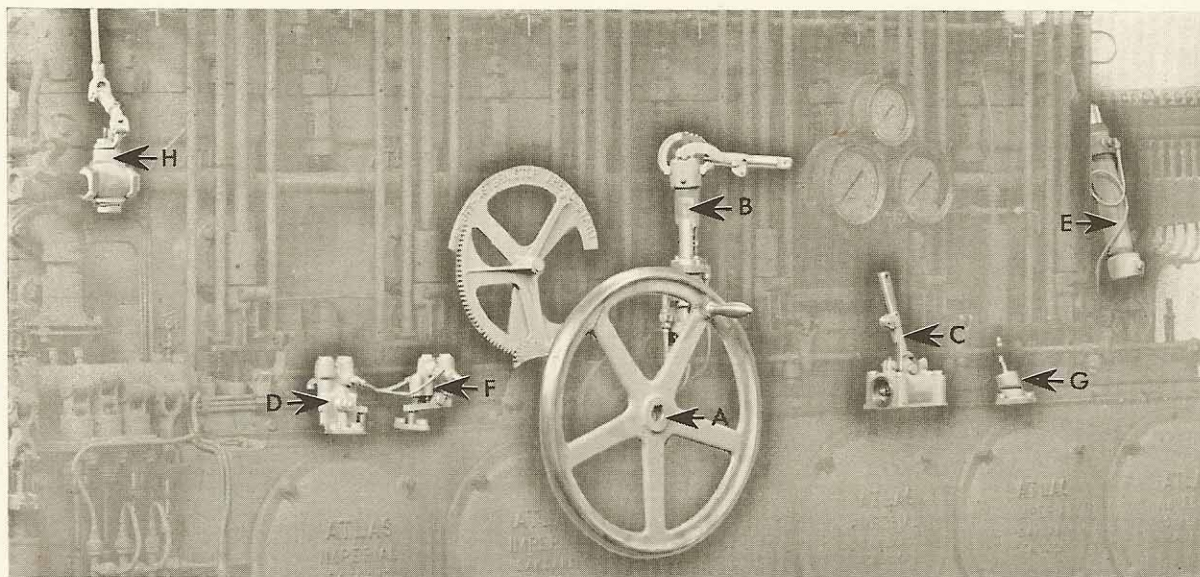

FIGURE 18-1
3. HAND-WHEEL CONTROLLED ENGINES: Figure 18-1 shows the various parts of the control system.
8. PILOT VALVES: These two valves (D) and (F), Figure 18-1, are operated from cams on the latch shaft. They are in operation only when the engine is maneuvering and yet they must hold full air pressure all the time the engine is operating. Therefore, it is essential that they are kept in perfect condition so that the starting air will not be wasted. Fine grinding compound can be used to grind leaking pilot valves. The procedure is the same as for grinding any other valves in the engine. Absolute cleanliness is necessary during assembly,
The adjustment of the pressure valves in both pilot valves is made with the hand wheel in the run position. The clearance between the valve stem and the set screw in the lever (see Figure 18-3) is adjusted to $\frac{1}{16}$ inch. The adjustment of the vent valve in the pilot valve (D), Figure 18-1, is made with the hand wheel in the stop position. The clearance between the valve stem and the set screw in the lever is $\frac{1}{16}$ inch. The adjustment of the vent valve in the pilot valve (F), Figure 18-1, is made with the hand wheel in the start position, and the clearance between the valve stem and the set screw in the lever is $\frac{1}{16}$ inch.